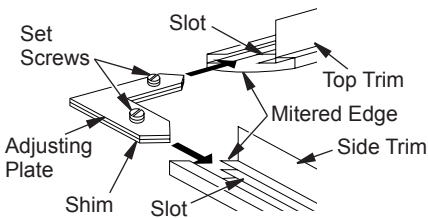

Figure 4 - Assembling Trim
3. Align shim under adjusting plate as shown in Figure 4.
4. Slide one end of adjusting plate/shim in slot on mitered edge of top trim (see Figure 4).
5. Slide other end of adjusting plate/shim in slot on mitered edge of side trim (see Figure 4).